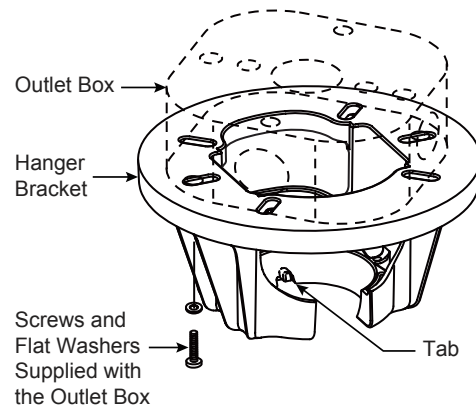

Figure 3
Your new ceiling fan will require a grounded electrical supply line of 120 volts AC, 60 HZ, 15 Amp Circuit. Electrical code requires use of a fan-rated outlet box to support the extra weight and motion associated with a ceiling fan. A fan-rated box will be labeled as such and typically supports up to a 70lb ceiling fan. Fan-Rated Outlet Boxes vary in ratings and design. Ensure the ratings of your ceiling fan outlet box meet the requirements for the ceiling fan being installed. Figure 1, Figure 2 and Figure 3 depicts different structural configurations that may be used for mounting the outlet box.
Deep box with brace (Figure 3)
3. Loosen the two set screws and locking nuts in the downrod support of the motor assembly. Route the black, white and blue wires through the downrod. (Figure 3)
1. Securely attach the hanger bracket to the outlet box using the outlet box screws and washers supplied with the outlet box. (Figure 3)
NOTE: Outlet box screws pass through slotted holes of the hanger bracket. (Figure 3)
3. Carefully lift the fan and seat the downrod/hanger ball assembly onto the hanger bracket that was just attached to the outlet box. (Figure 4) Be sure the groove in the ball is lined up with tab on the hanger bracket. (Figure 3)
- 2. Slide the receiver into the hanger bracket before wiring as shown in figure 3.
3. Remove one of the three screws in the light plate assembly. Retain the screw for later and slightly loosen the remaining two screws. (Figure 3)
- 3.** To make fan operational, install 23A/12V battery (included) in hand-held remote transmitter, with fan power off. Then follow the remote code setting process. (If not used for long periods of time, remove battery to prevent damage to transmitter). Store the remote away from excessive heat or humidity. (Figure 3)